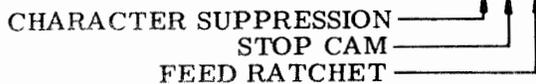

Figure 2 - Coding of Answer-Back Drum - 8-Level ASCII Teletypewriter Code
4.02 The code drum, prior to coding, is identical in either 5- or 8-level operation. As can be seen in Figure 1, three levels are not used when coding the drum for 5-level operation. The tines in these three levels may be left intact, since no contact wire springs sense these positions. When coding the drum for 8-level operation, all levels on the drum are used. See Figure 2.